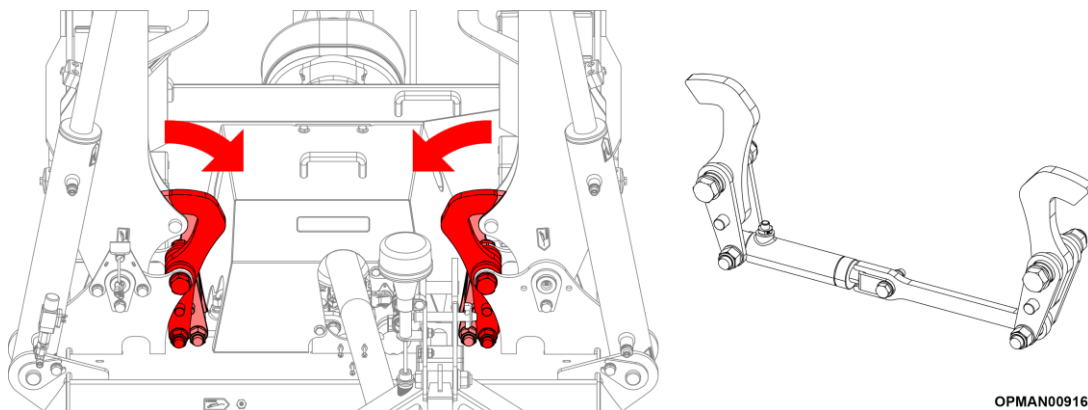

Figure 4.23
- 4.6.2.1 Press and hold the tractor spool control lever/button which will allow the hydraulic wing locks to release the wings when powered down; see Figure 4.23.